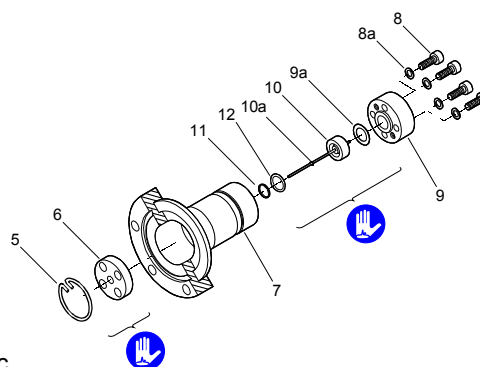

Figure 3c
- a) Insert the new metal seal (11) with the centering ring (12) centered into the measuring chamber. The sealing surfaces, seal and ceramic part must be clean (→ Figure 3c).
- b) Carefully insert the anode (10) incl. ignition aid (10a) into the measuring chamber.
- c) Carefully place the washer (9a) and the pressure piece (9) on the measuring chamber and tighten them **uniformly** with the four hexagon socket screws (8) incl. the lock washers (8a) until the stop position is reached.
- f) Slide the polarity insert (6) into the measuring chamber up to the mechanical stop.
- g) Place the circlip (5) snugly fitting on the polarity insert.